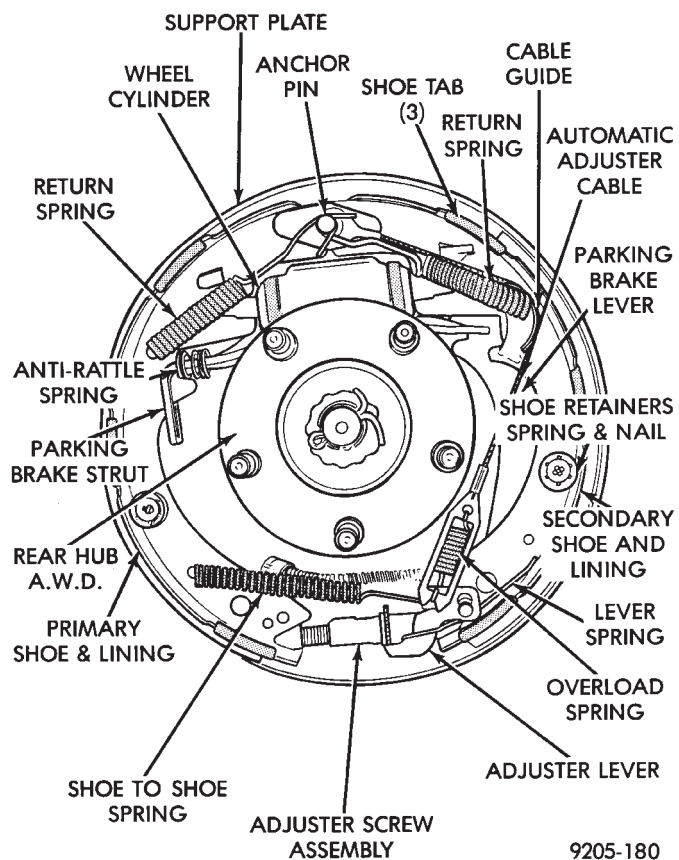

Fig. 2 Rear Wheel Brake A.W.D. Applications
(1) Remove rear wheel and tire assembly from vehicle.
(2) Remove hub and drum assembly on front wheel drive applications. On all wheel drive applications remove only the brake drum, the hub assembly (Fig. 2) will remain on the vehicle.
(4) Slide eye of automatic adjuster cable off anchor pin and then unhook from adjusting lever (Fig. 2) Remove cable, overload spring, cable guide and anchor pin plate.